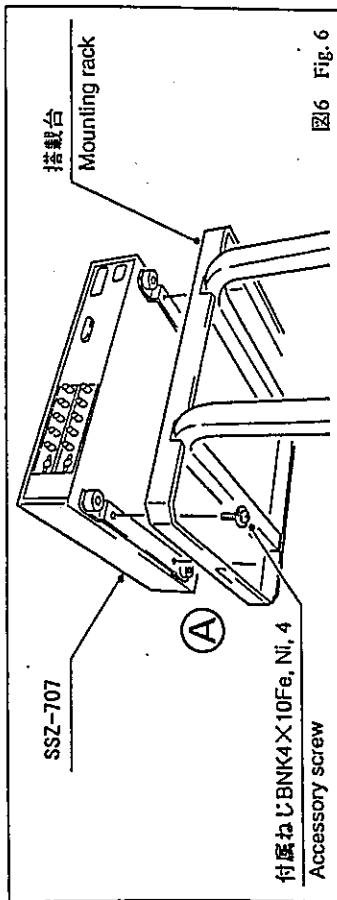

図6 Fig. 6
- (1) Unfasten 1 each screw of 4 legs on the bottom of SSZ-707 and remove it. (Ⓐ in Fig.)
- (2) Use 4 accessory screws unfasted as referred to install 2 mounting brackets for SSZ-707 and 4 legs removed as referred to in (1) above on the bottom of SSZ-707. (Ⓑ in Fig.)
- (3) SSZ-707 を、脚を搭載台の穴に含ませて載せ、付属ねじ4本で取り付ける。(図6㉔)
(3) Place SSZ-707 on mounting rack, with legs adjusted to holes on rack. Then, use 4 accessory screws to install SSZ-707 on mounting rack. (㉔ in Fig. 6)